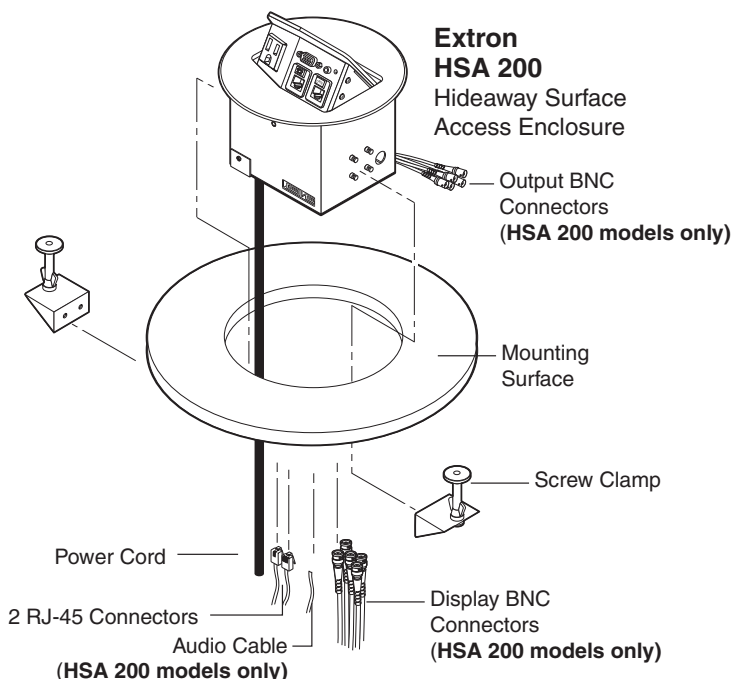

Figure 8. Mounting the HSA 200 or HSA 222 Enclosure
4. From the underside of the table, reinstall the screw clamps on the enclosure at a height at which the clamp will reach the underside of the tabletop (see figure 8 on the next page).
NOTE: Figure 8 shows an HSA 200 installation. Except for the video and audio connectors, the HSA 222 installation is identical.